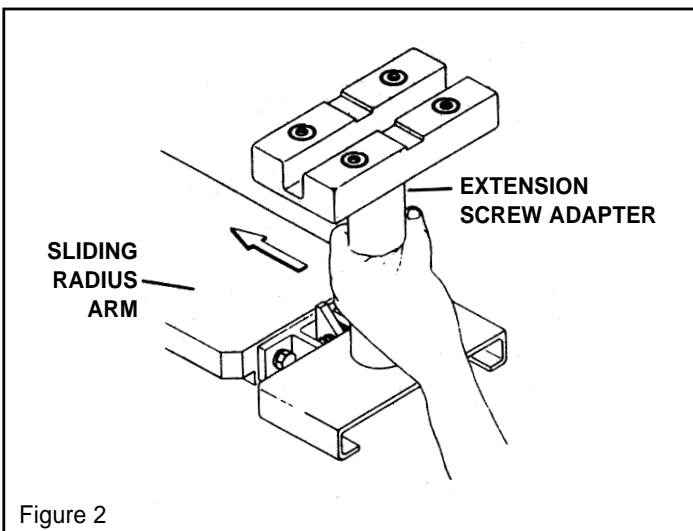
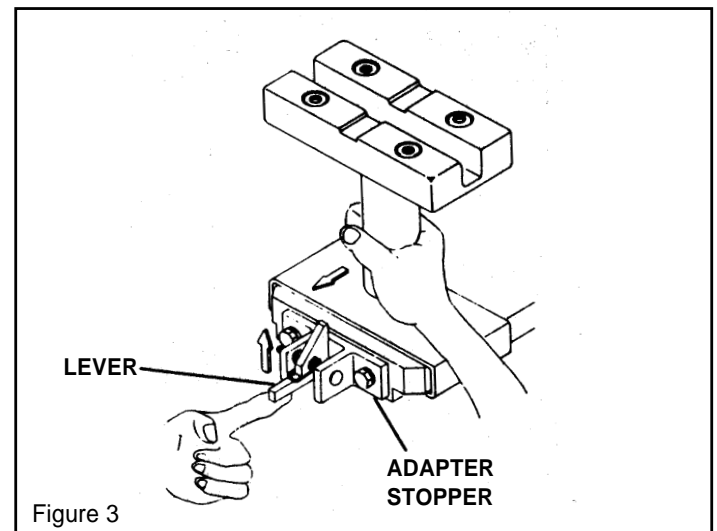

Figure 2
Figure 3
**NOTE:** Before lifting it is important to use adapters that are positioned as close as possible to the vehicle's frame in order to achieve maximum lift height. This mid-rise lift includes a set of four swivel rubber lifting pads and four 2-1/8" high riser pads. The rubber lift pads sit on top of the four sliding radius arms and are intended for use with low profile vehicles. The 2-1/8" high riser pads are used only in conjunction with the rubber lift pads when added height is required to come closer to the vehicle frame. Higher profile vehicles like light duty trucks and vans will require the optional set of 4 model 86010 extension screw adapters. The extension screw adapters slide on the sliding radius arms (see figure 2). The lever on the adapter stopper must be lifted up in order to slide the extension screw adapter off the sliding radius arms (see figure 3). Four steel cover plates come with the optional model 86010 extension screw adapters, and can be used over the rubber pads if desired.